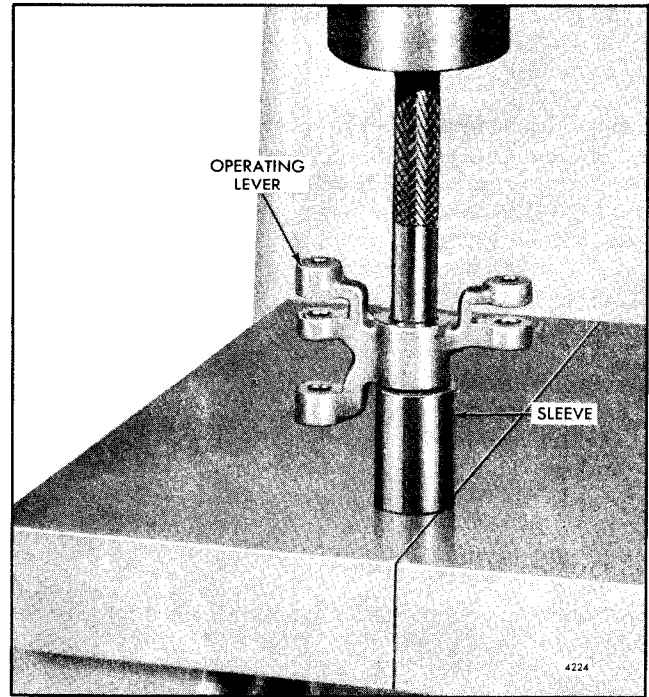

Fig. 8 - Removing Control Link Operating Lever Bearings using Tool J 8985
- l. If removal of the needle bearing is necessary, support the control link operating lever on a sleeve and rest the sleeve on the bed of an arbor press. Place tool J 8985 on top of the bearing and under the ram of the press, then press both bearings out of the lever as shown in Fig. 8.